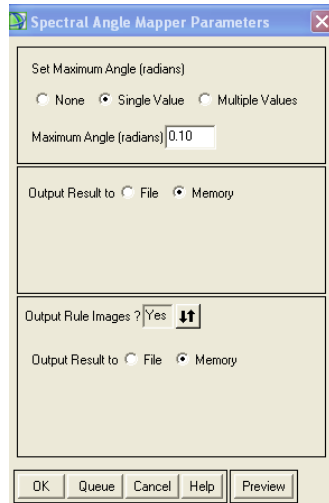

Figure 14. Window to Preview
19. If you want to Preview the Classified Mapped Image, click Preview (see Figure 14) from the Spectral Angle Mapper Parameter window. This will show you what pixels are going to be classified before saving.